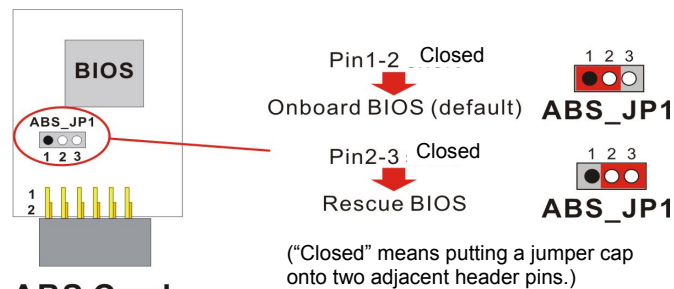

Figure 1
2. Set the jumper cap on the ABS_JP1 header located on the ABS Card to the "*Rescue BIOS*" position (**figure 1**).